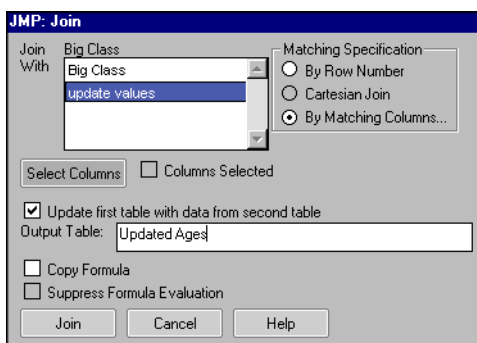

Figure 19: By checking the option “Update first table with data from second table,” you create a new table.
2. Check **Update first table with data from second table** (see Figure 19).
3. Enter a name for the new table in the **Output Table** box (see Figure 19).